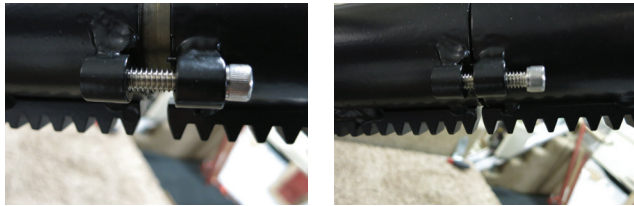

Figure 3-11
7. Connect parts at the joint with the supplied bolts. Carefully tighten as you assemble the rail. DO NOT overtighten. **See Figure 3-11.**